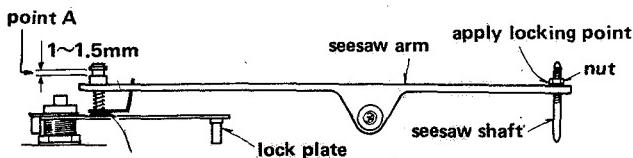

Fig. 4-9
3. Referring to Fig. 4-9, loosen the nut holding the seesaw shaft and turn the shaft until a clearance of 1 to 1.5 mm is obtained at point A.